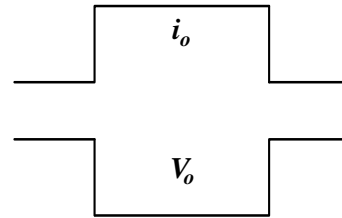
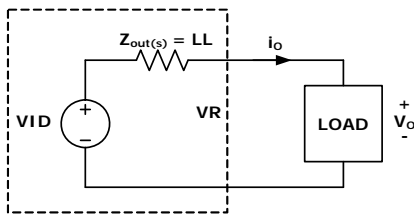

FIGURE 14. DESIRED LOAD TRANSIENT RESPONSE WAVEFORMS
FIGURE 20. VOLTAGE REGULATOR EQUIVALENT
Assuming the compensator design is correct, Figure 14 shows the expected load transient response waveforms if C_n is correctly selected. When the load current I_{core} has a square change, the output voltage V_{core} also has a square response.
Figure 14 shows the desired load transient response waveforms. Figure 20 shows the equivalent circuit of a voltage regulator (VR) with the droop function. A VR is equivalent to a voltage source ($= \text{VID}$) and output impedance $Z_{out}(s)$. If $Z_{out}(s)$ is equal to the load line slope LL , i.e. constant output impedance, in the entire frequency range, V_o will have square response when I_o has a square change.